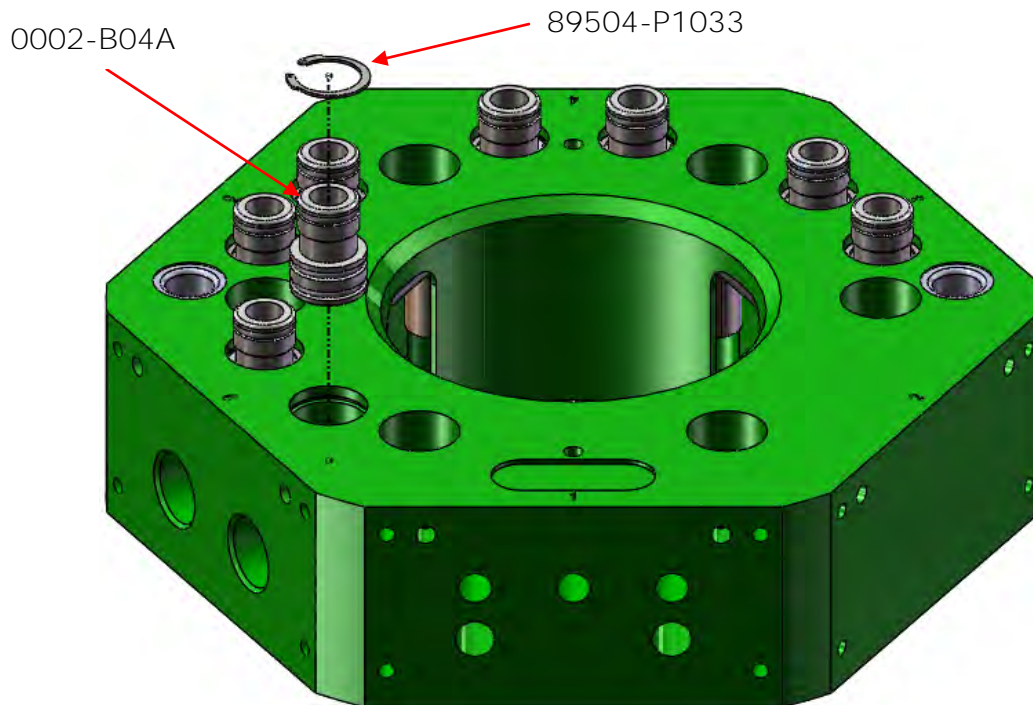

Figure 10.2.3-1. Air Valve Fitting Replacement
4. Push the valve fitting assembly into the valve fitting hole by hand until it bottoms out in the hole. Ensure the proper orientation of the valve fitting as shown in Figure 10.2.3-1.